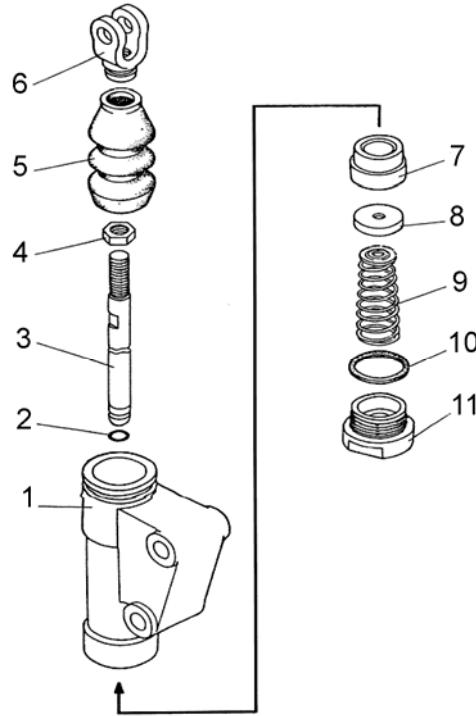

Figure 4.10. Main cylinder of clutch control on reversal
c) **disassembly main cylinder** for clutch control on reversal (Figure 4.10); to do this: